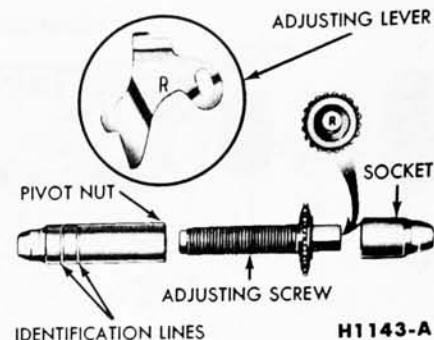

FIG. 11—Adjusting Screw and Lever Identification
stallation on the wrong side of the car, the socket end of the adjusting screw is stamped with an R or L (Fig. 11). The adjusting pivot nuts can be distinguished by the number of grooves machined around the body of the nut. Two grooves indicate a right hand nut; one groove indicates a left hand nut.
11. Hook the cable hook into the hole in the adjusting lever. The adjusting levers are stamped with an R or L to indicate their installation on a right or left hand brake assembly (Fig. 11).